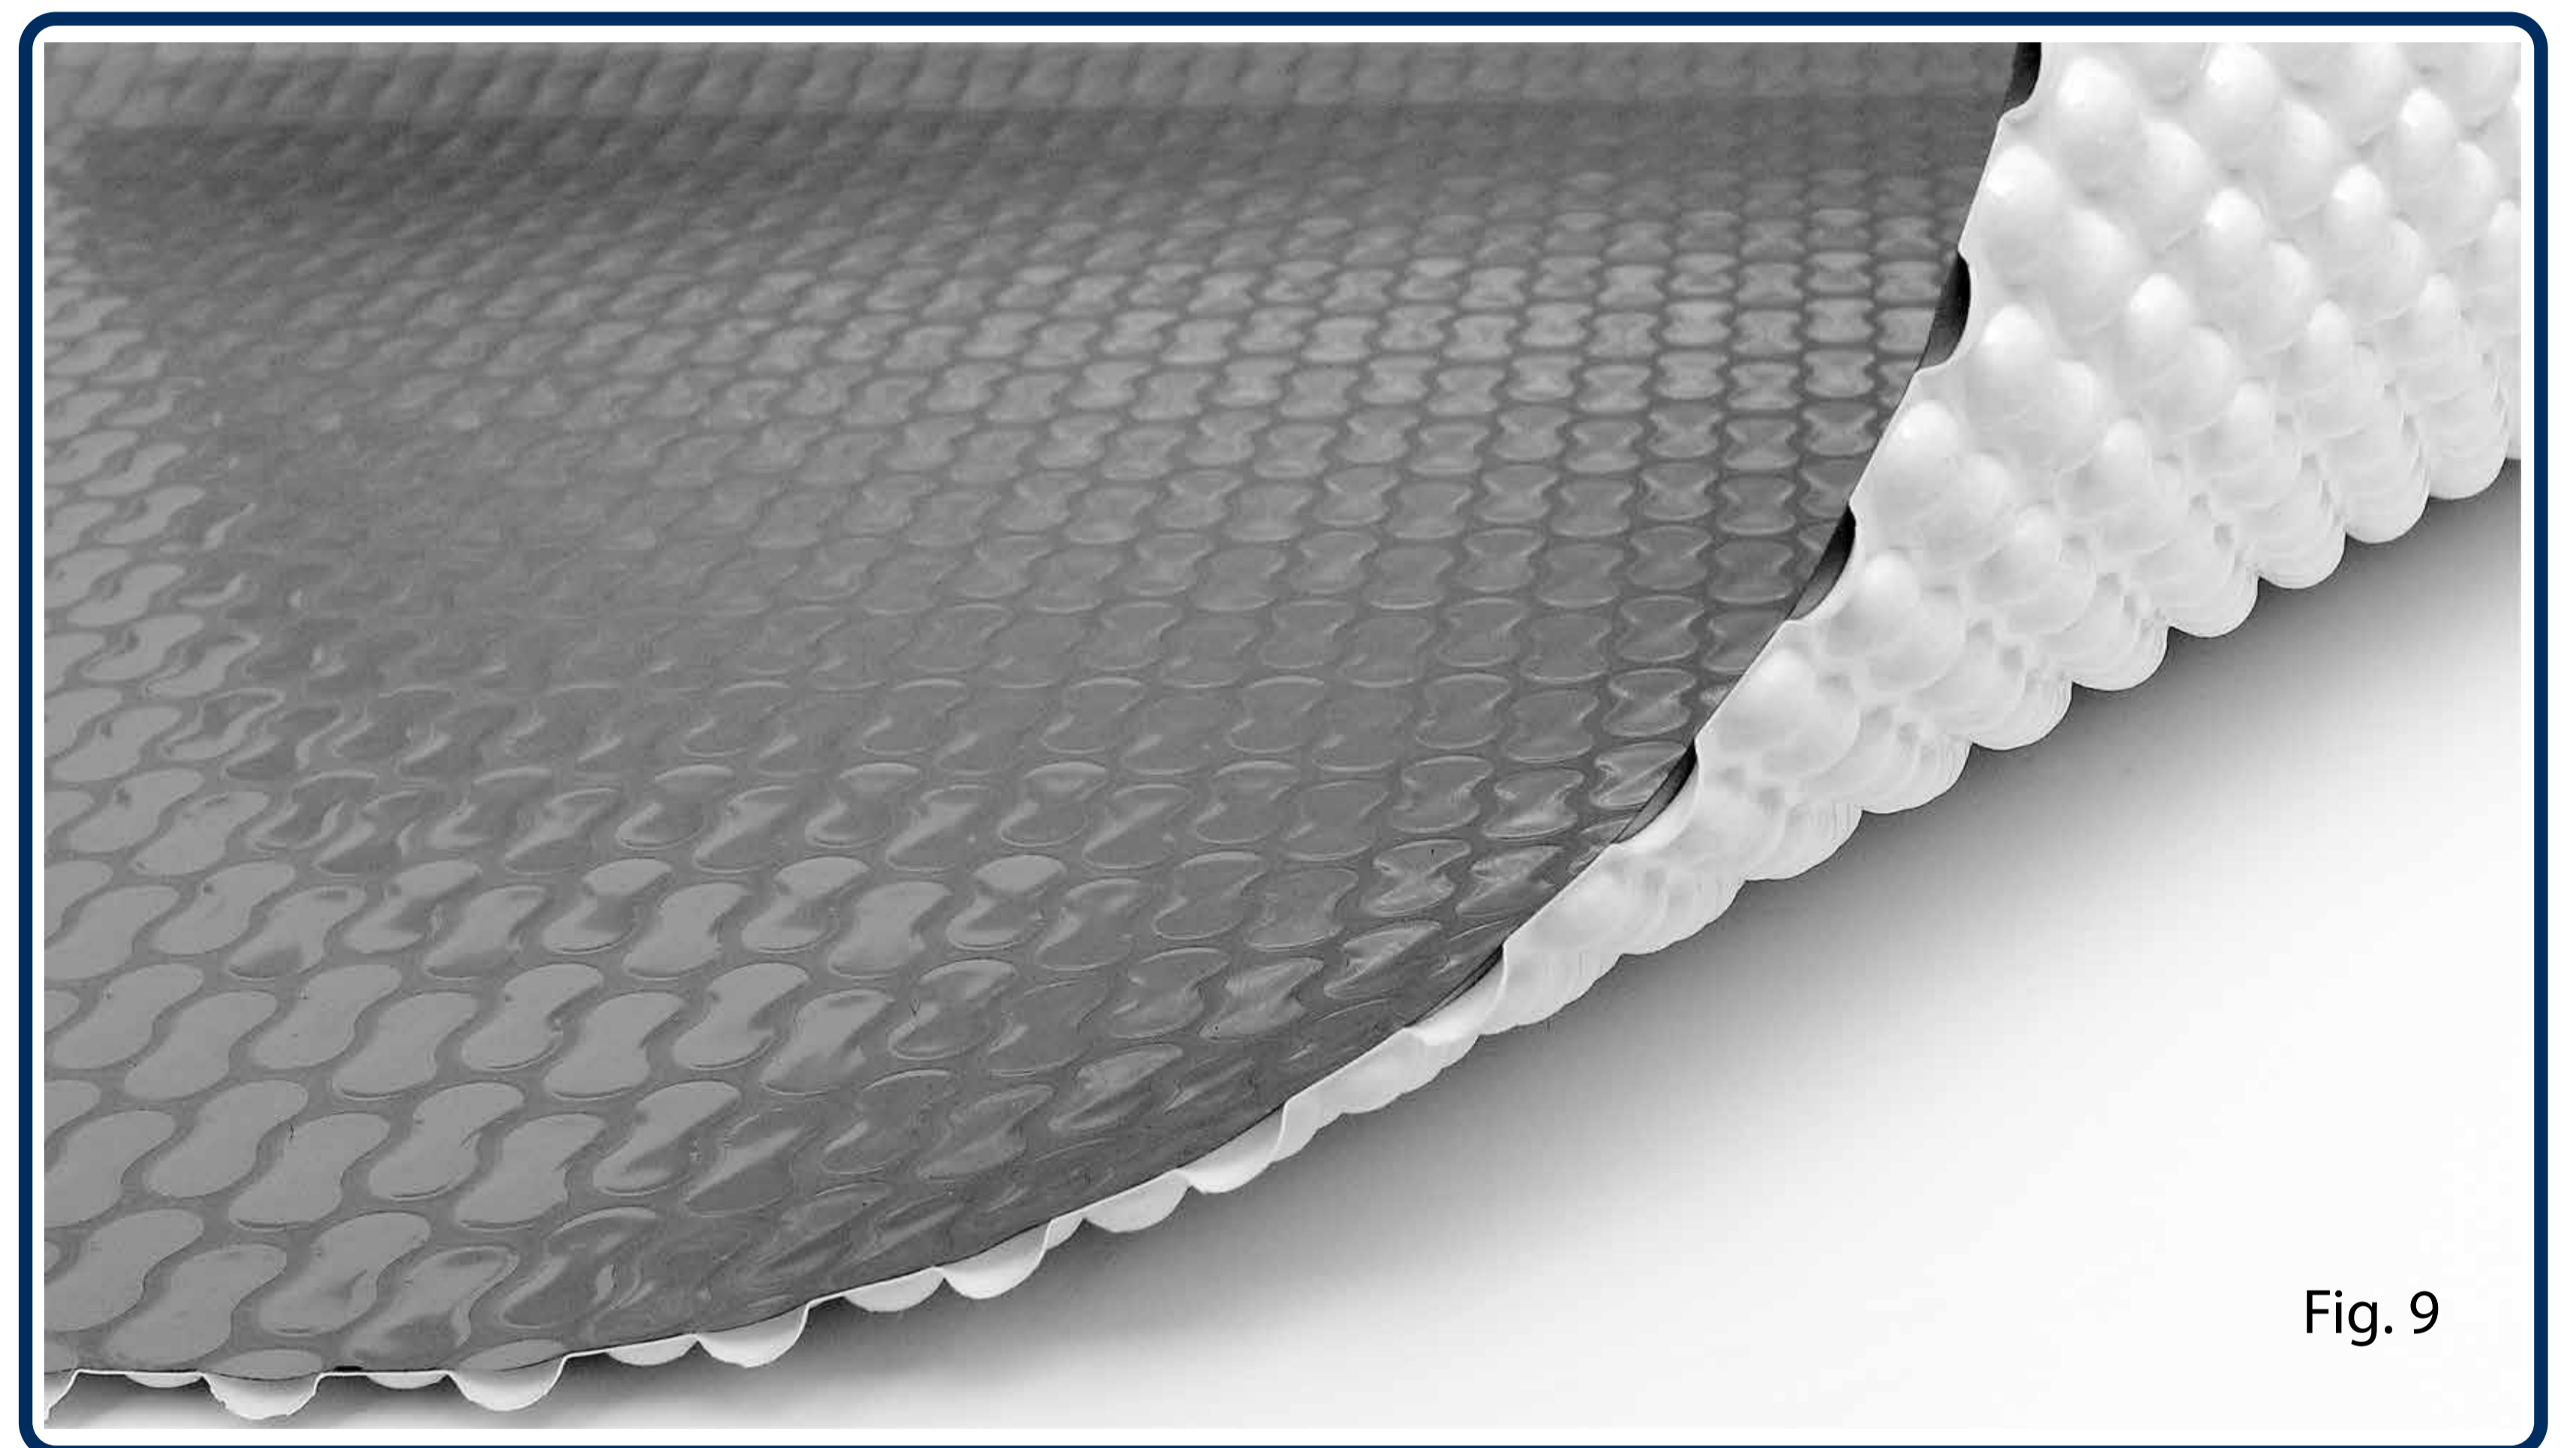

Fig. 9
*Figure 9. RaeGuard™ pool cover material is immediately recognisable by its Reflective Silver top surface and Titanium White bubble layer. These pigments were specially selected for their reflective properties.*